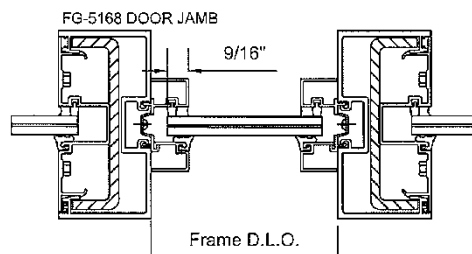

FIGURE 2
- For transom glass width use Frame D.L.O. minus 7/8" as shown in Figure 2.